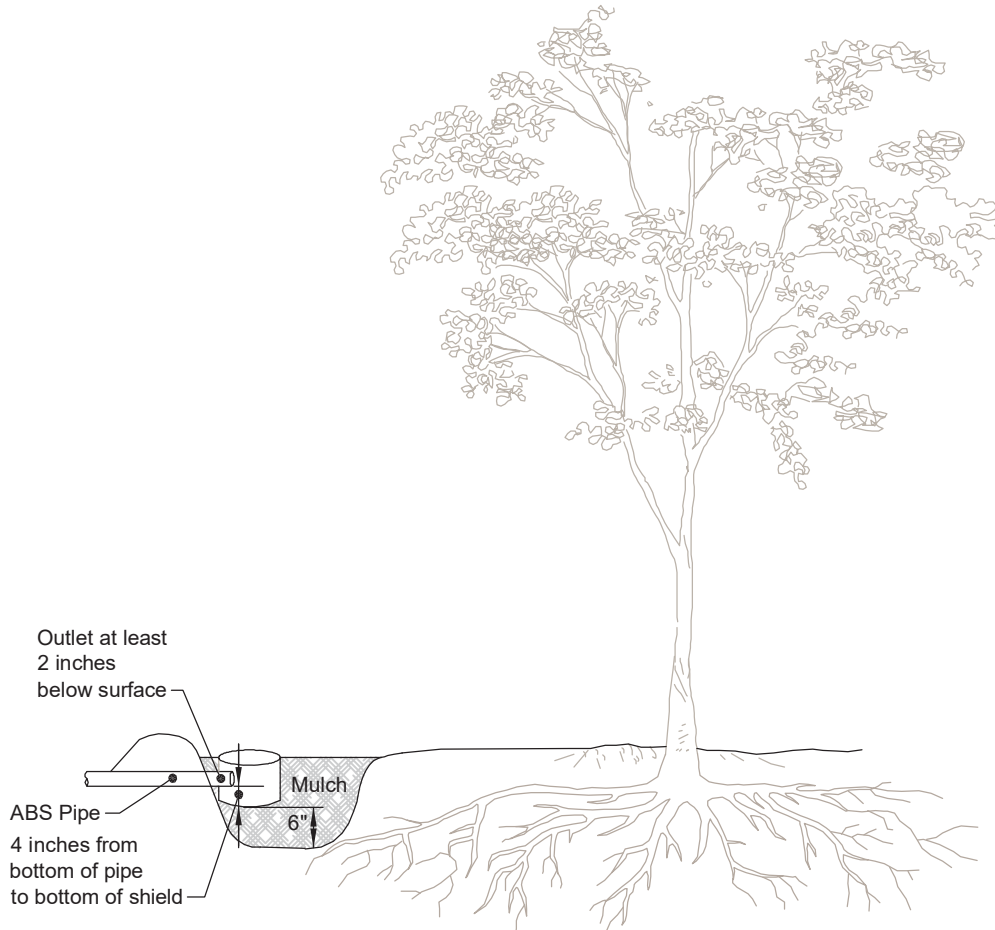

Figure 8. Mulch shield inside of mulch basin. Note: Roots of a real tree would extend under basin and outside of drip line by many feet.
5. Prepare the landscape. Dig mulch basins around the drip lines of the plants to be irrigated, trench the pipe to the plants, and construct mulch shields for subsurface irrigation (Figure 8). Make sure that the graywater is discharged at least 2 inches below ground surface and that it falls through the air onto 4 to 6 inches of mulch.